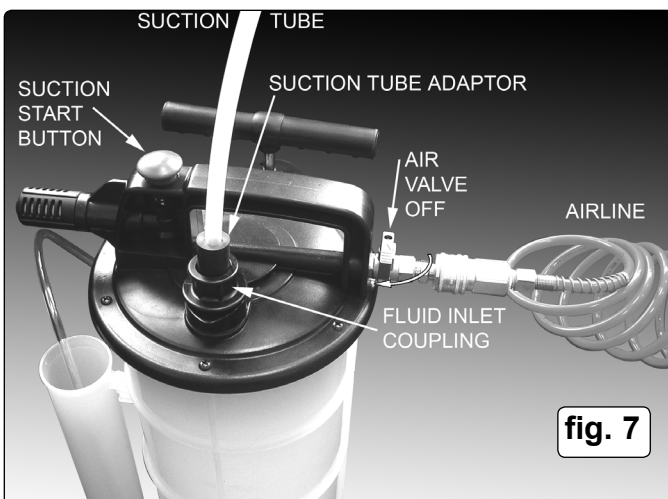

fig. 7
- 4.1. Ensure that the air valve (see fig.7) is in the "off" position before connecting to the air supply.
- 5.4. Position the tank close to the front or side of the vehicle See fig.6 above. Connect the main suction tube to the fluid inlet coupling using the black rubber suction tube adaptor as shown below in fig.7.